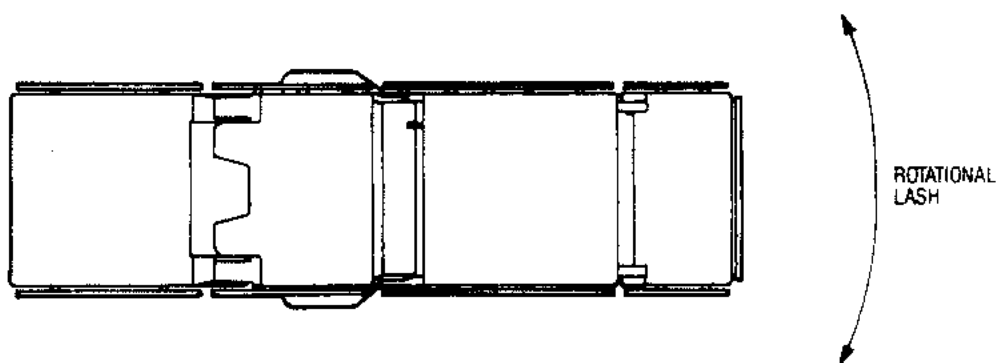

Figure 9-4. Rotational Lash
- c. **Rotational Lash* and Rigidity** (see Figure 9-4): Push in the horizontal plane with 50 lbs (22.7 kg) applied (or 50 lbs force exerted) at right angles to the outboard end of the right leg-section siderail. Measure the amount of movement at the outboard end of the left back-section siderail when the 50 lbs (22.7 kg) is removed and a push of 50 lbs (22.7 kg) is applied to the outboard end of the right back-section siderail. The measurement shall not exceed $3/16$ " (2.4 mm).